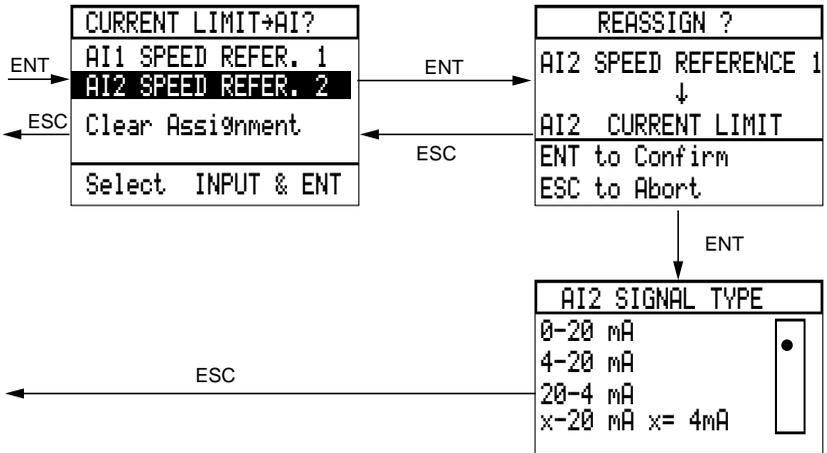

Figure 22: Reassigning Analog Inputs
- Analog Input: assign an analog input to Current Limit (see Figure 22 for procedure). The set current limit is ignored and the analog input is scaled so that the adjustment range of current limit is 40% to 150% of the drive controller current for constant torque configurations and 40% to 110% of the drive controller current for variable torque type configurations. This function could be used as a drive current reference for motor torque control.